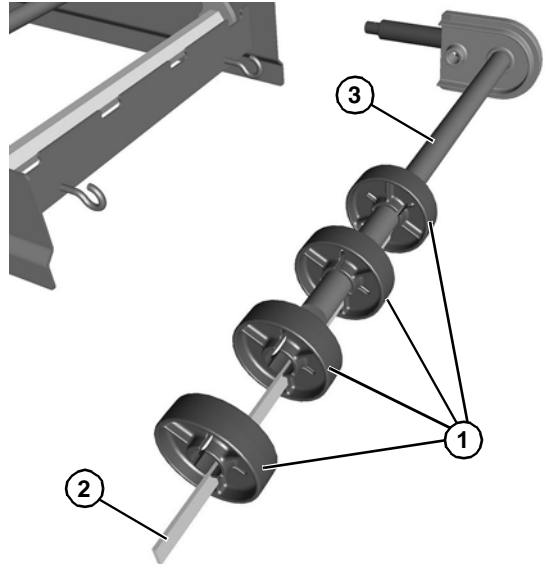

Figure 70
- Place the pucks (**Figure 70, item 1**) onto the alignment bar (**Figure 70, item 2**), and install onto the idler shaft (**Figure 70, item 3**).
- Slide all the idler pucks (**Figure 70, item 1**) along with alignment bar onto idler shaft (**Figure 70, item 3**).